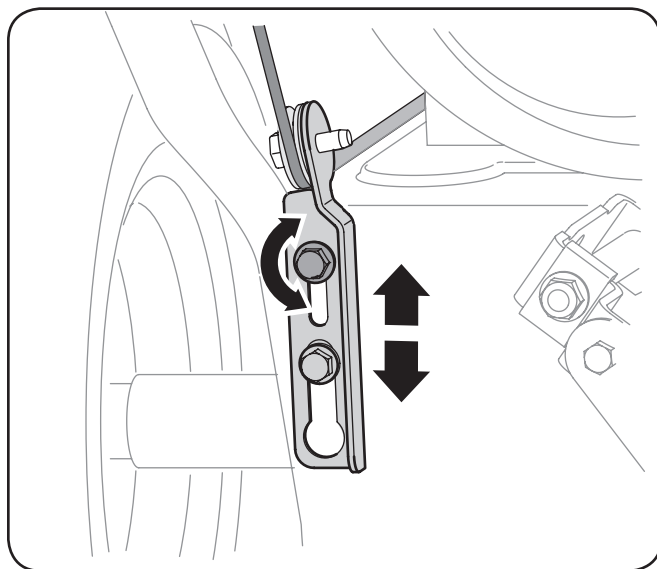

**Figure 3-16**
4. Allow the auger to remain engaged for approximately ten (10) seconds before releasing the auger control. Repeat this several times.
8. Position the bracket upward to provide more slack (or downward to increase cable tension). See Figure 3-16.